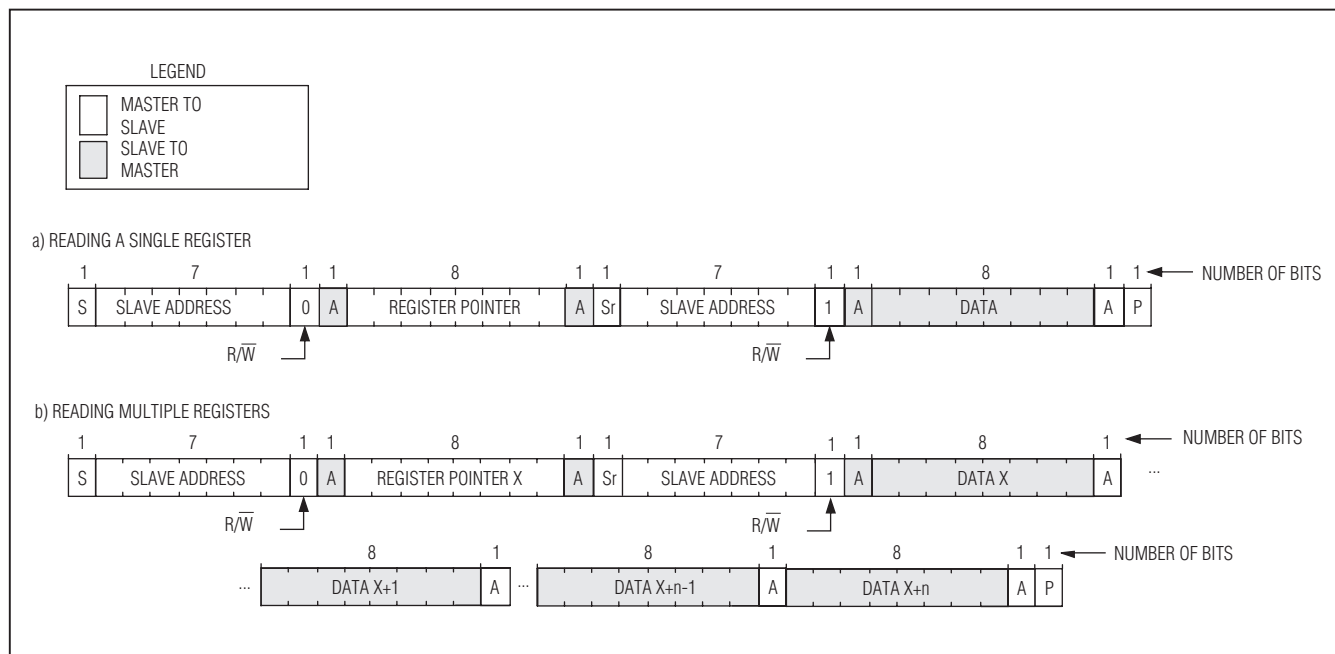

Figure 18. Reading from the ICs
- Use the following method to read a sequential block of registers (Figure 18):